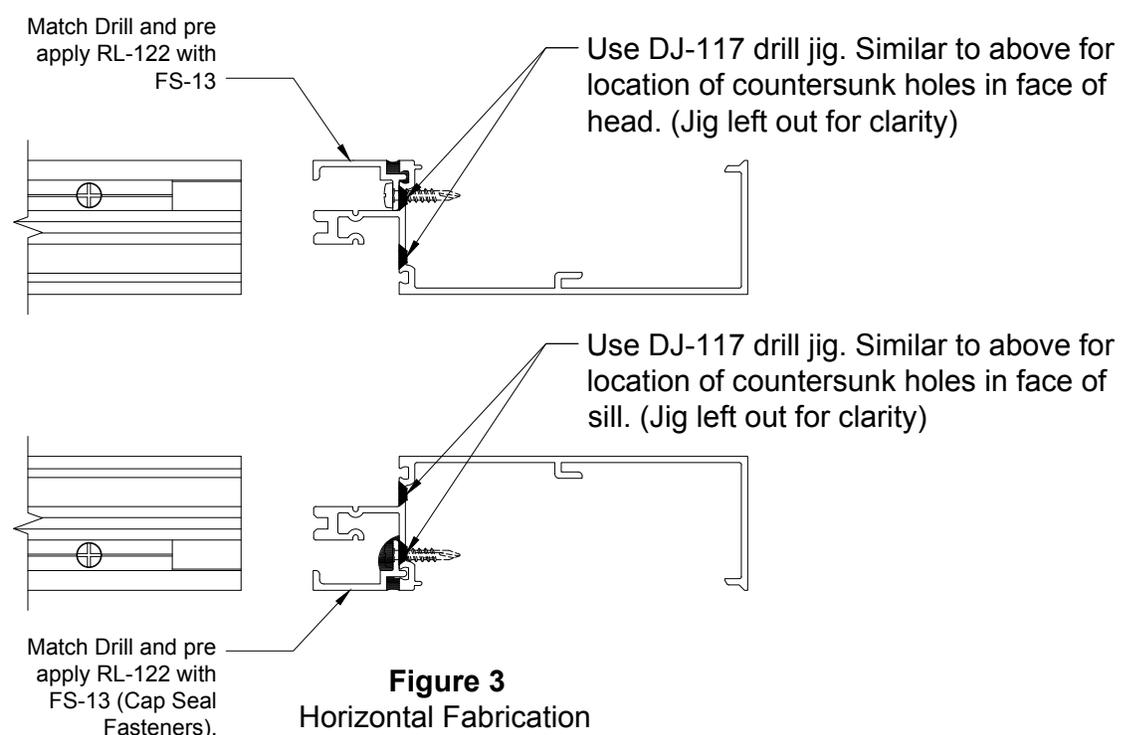

Figure 3
- 1.5 Fabricate ends of horizontal members for shear block screws, using DJ-117 drill jig. **SEE FIGURE 3.**